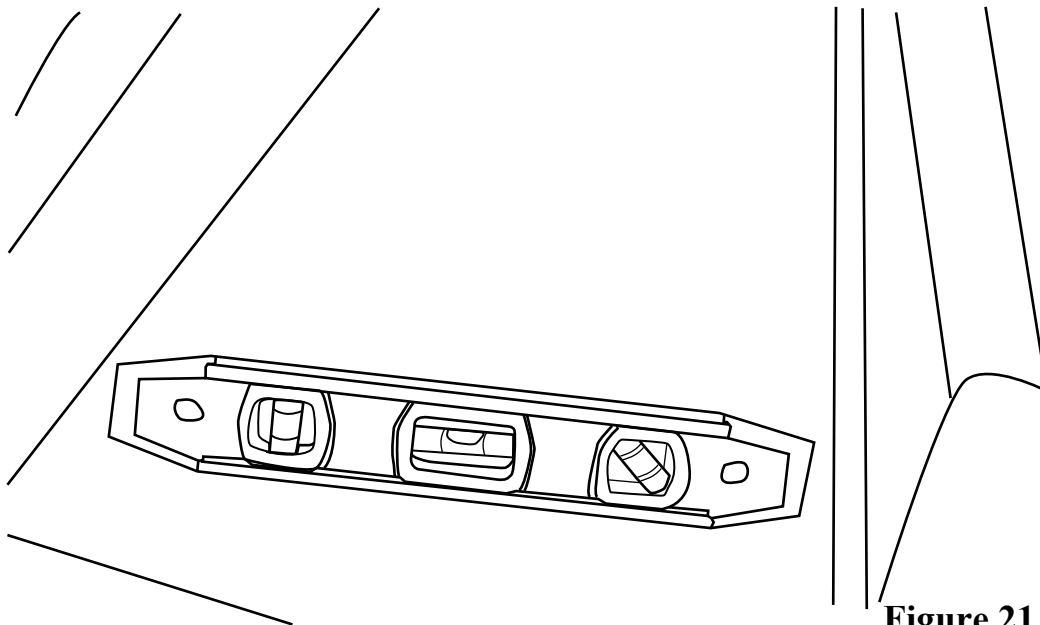

Figure 21
- 22)** Level as close as possible the exit runway surface horizontally from side to side, approximately 9" up from the exit end, using a small level as shown in Figure 21.